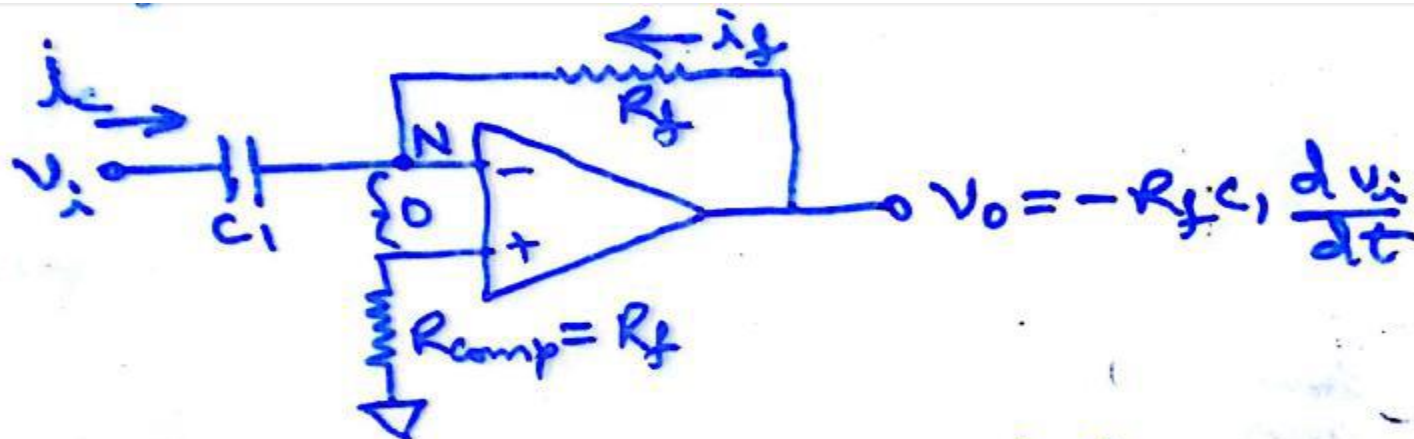

Fig 4.21(a) op-amp differentiator
- A differentiator circuit is shown in the figure 4.21(a).
- Differentiator of figure 4.21(a).